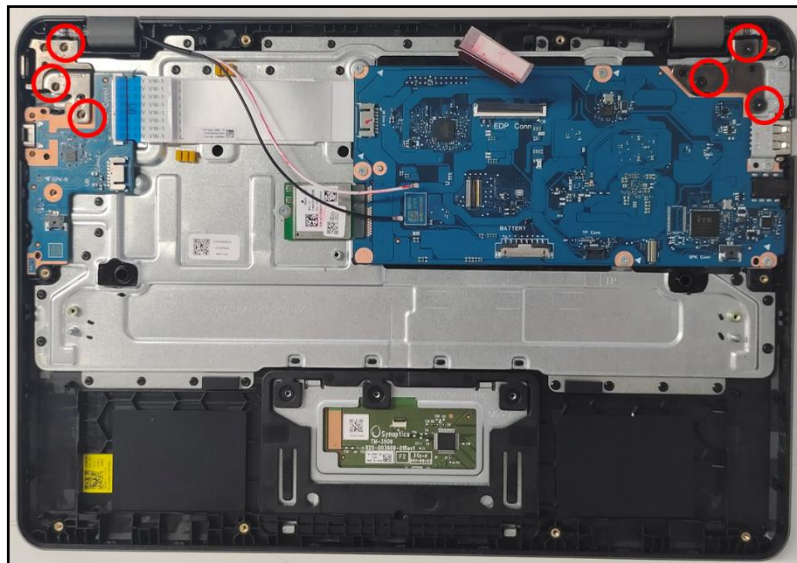

Figure 3-30. LCD Module Removal
11. Remove six (6) screws securing the LCD hinges (Figure 3-30).